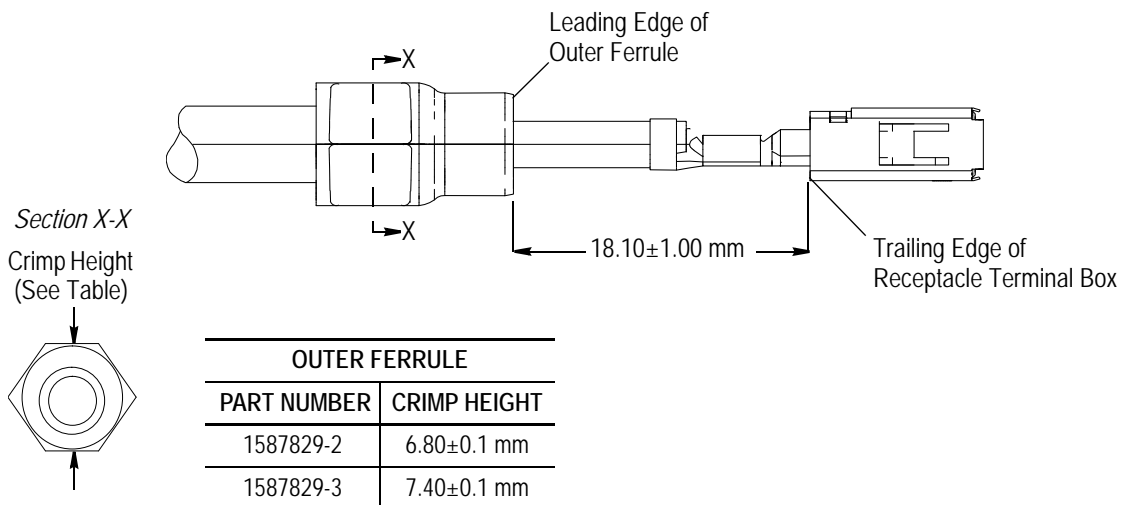

Figure 11
9. Crimp each outer ferrule using the tooling specified in Section 5. Using a blade micrometer, measure each outer ferrule crimp over the most compressed area three times: one on top and one on each opposing side. Use the lowest measurement as the passing criteria. The crimp height is given in Figure 11.
The distance between the leading edge of the outer ferrule and trailing edge of the receptacle terminal box must be maintained at the dimension given in Figure 11.